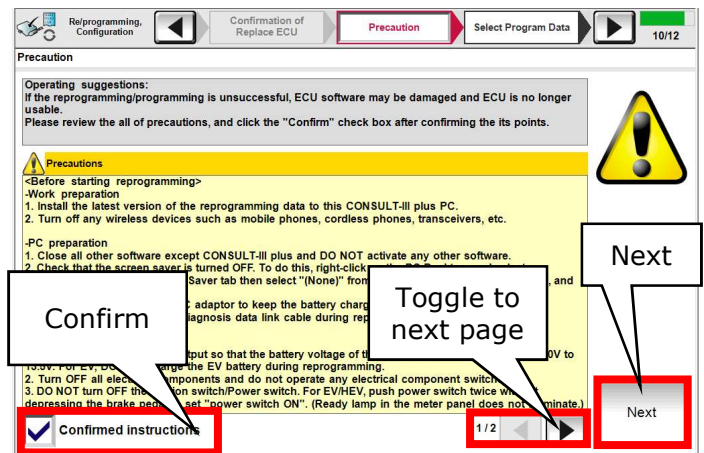

Figure 24
26. Read both pages of precautions using the arrows to toggle pages. (Figure 24)